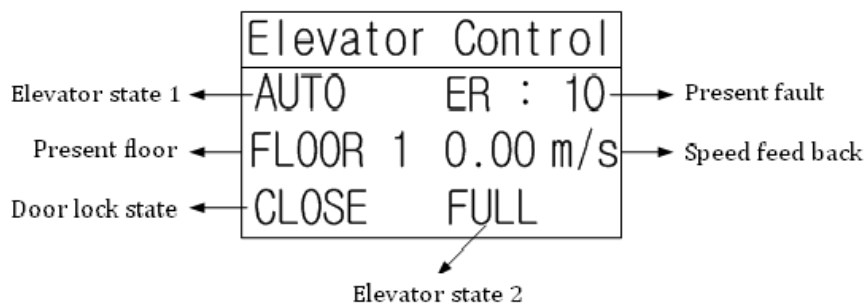

Figure 7.1 Digital Operator LCD Screen Interface
- c. **(Note: Connect digital operator before power on)** After power on, first see if the main menu display is correct on LCD indicator. For example: elevator state, fault state, door lock state, current floor, running speed and else. In this way we can tell if the controller is working properly and whether 24V power supply is normal. Interface on digital operator LCD screen can be seen below in figure 7.1